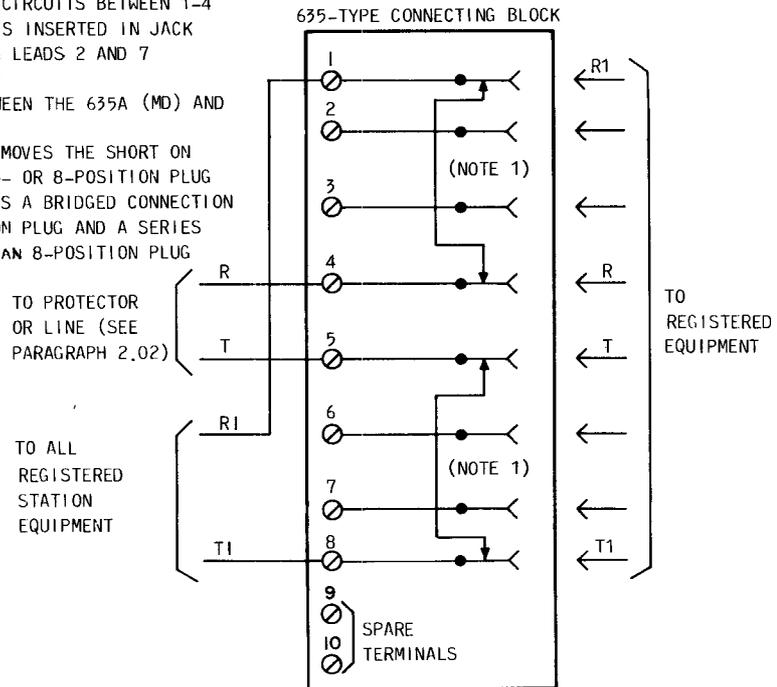

Fig. 3—Connections for USOC RJ31X
2.02 USOC RJ31X: This arrangement is wired so that when the registered equipment is plugged into the 635-type connecting block, the equipment is placed in series with the tip and ring of the line (Fig. 3). When the plug is removed, tip and ring are cut through to the station equipment. ***The 635-type connecting block must be wired in the circuit, ahead of ALL station equipment, to prevent false operation of the registered device and to cut off ALL station equipment from the line.*** Typical usage is an alarm dialer.